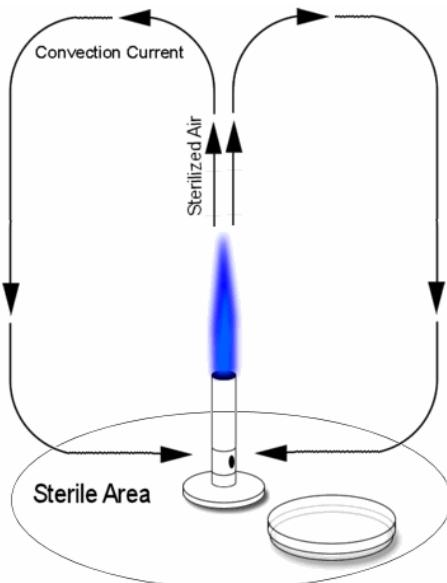

Figure 1
4. Perform all aseptic work in a clean work space, free from contaminating air currents and drafts. For optimal environmental control use a Bunsen burner to maintain a constant upward air current (figure 1). Never leave the burner unattended when using this technique. One student must always be present, if not, turn the burner off.
Figure 1: Streaking an agar plate is done in 3-4 sections. The goal is that sections "D" and "E" will yield isolated, individual colonies. **Flame loop between each section.**